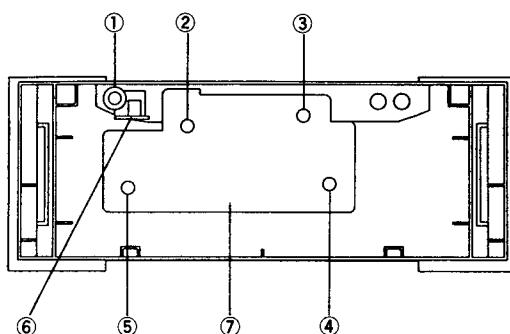

Fig. 7
1. Remove the front panel assembly (Refer to step ④).
2. Remove screw ①, in Fig. 7, and then remove pcb-3 ⑥.
3. Remove screws ② to ⑤, in Fig. 7, and then remove pcb-4 ⑦.
⑥ Front Panel Assembly Removal